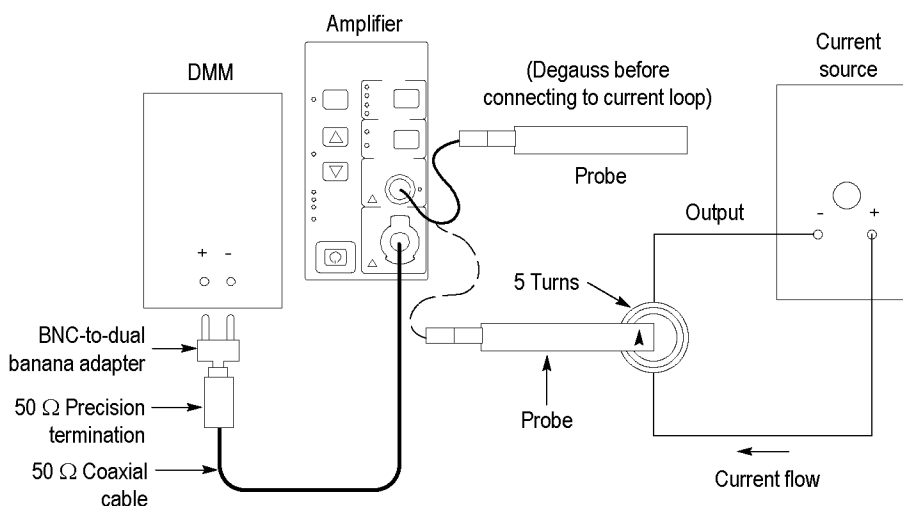

Figure 7: DC gain accuracy test setup for TCP305A and TCP312A
3. Clamp the current probe around the 5 turn current loop, as shown. (See Figure 7 on page 20.)